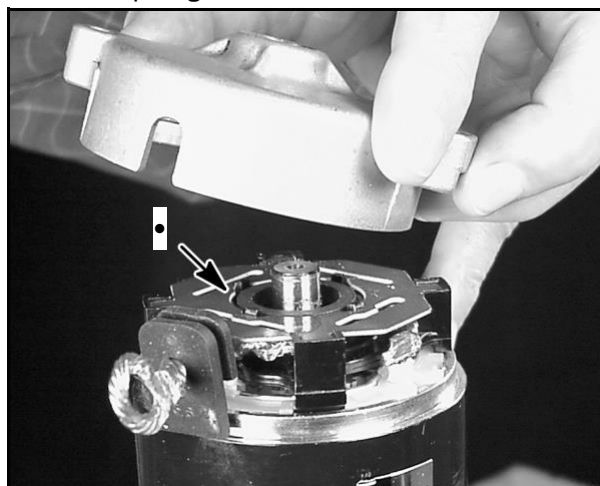

Fig. 31
Remove brush end cap, **Fig. 31**.
NOTE: To prevent losing brush springs, do not remove brush retainer (1) until starter housing has been removed from drive end cap, **Fig. 31**.